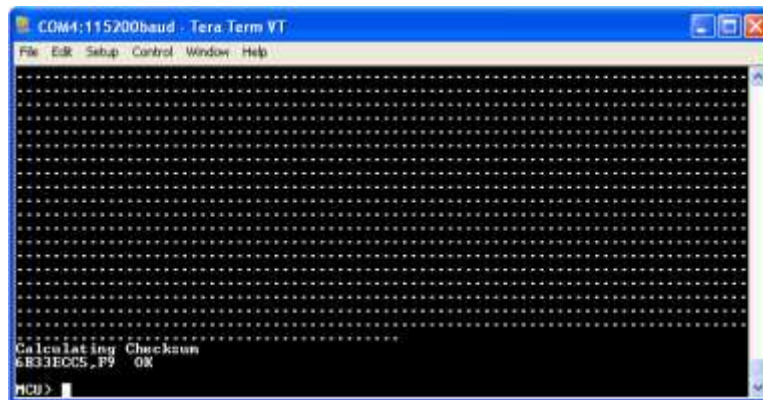

Figure 9: Download Complete
- l) When the terminal program is finished transferring the data, the radio will display a “Done” message. The update is now complete. See Figure 9